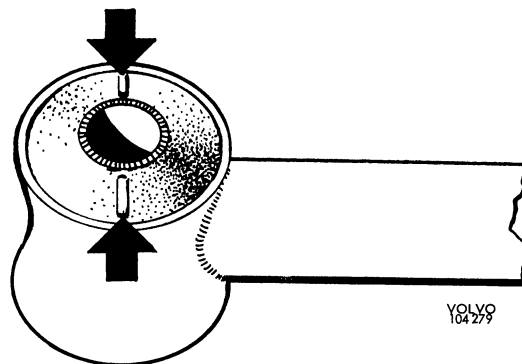
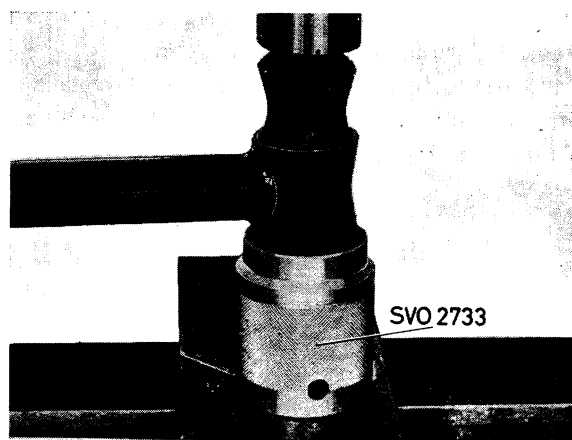

Fig. 7-9. Marking support stay bush
Fig. 7-10. Fitting support stay bush
5. When fitting, turn the bush so that the markings on the bush are at right angles to the longitudinal direction of the support stay, as shown by the arrows in Fig. 7-9. The bush can suitably be pressed in with a press drift directly on the bush and with SVO 2733 as a counterhold (see Fig. 7-10).